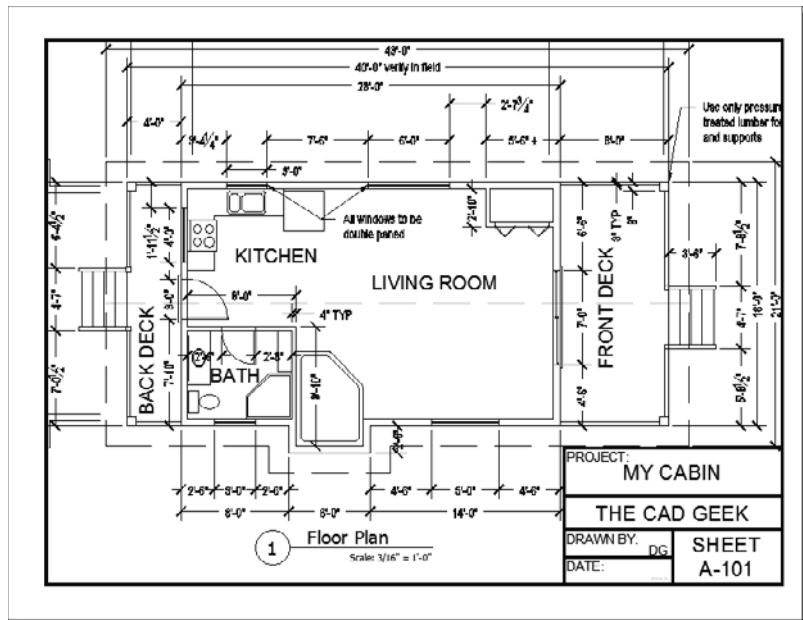

FIGURE 15.31 The preview of the current layout
8. In the lower-left corner, select Preview. Your preview should look like Figure 15.31. Notice how the preview looks exactly like the layout, but without the dashed frame.